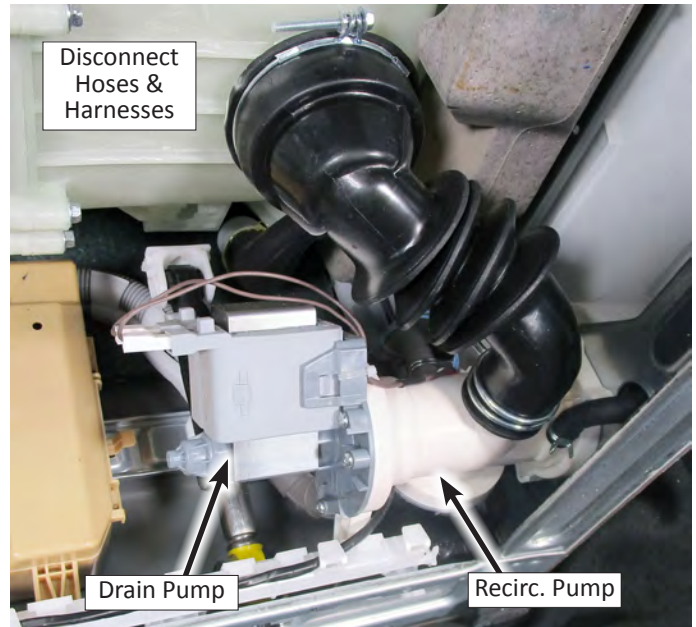

Figure 2
7. Disconnect all hose clamps and hoses from the drain and recirculation pumps (see Figure 2).
8. Disconnect the harness from both the drain and recirculation pumps. See Figure 2.